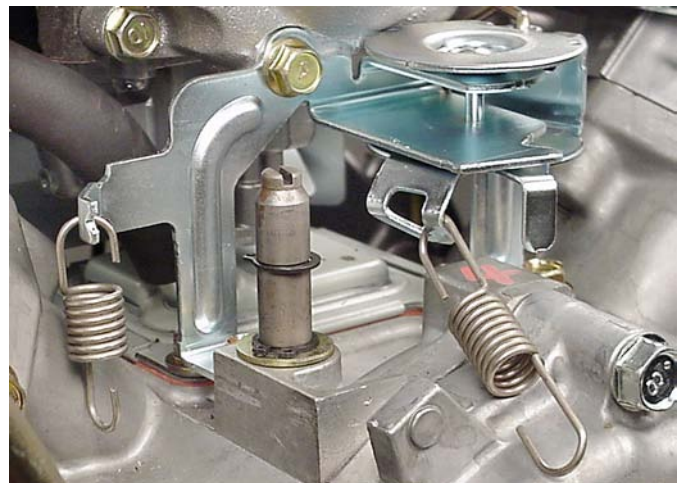

Fig. 167
6. Assemble governor springs to governor control bracket, Fig. 167.